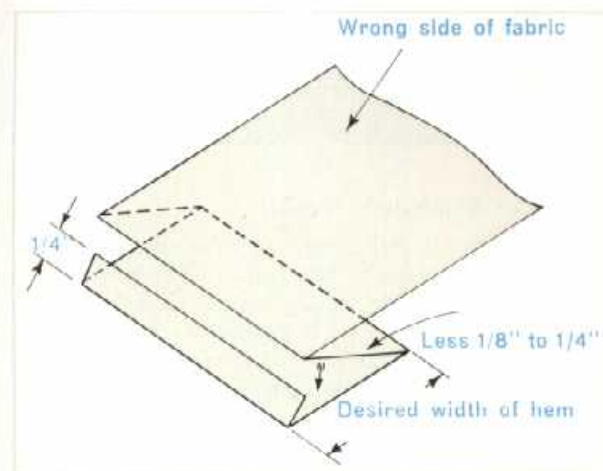

Fig. 78
- 3) Fold almost the entire width of the hem toward the right side of the garment (see Fig. 78), leaving only about $\frac{1}{8}$ " to $\frac{1}{4}$ " of hem exposed. The